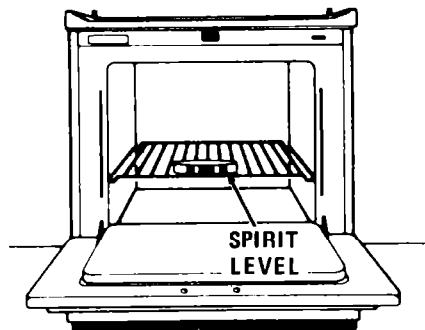

FIGURE 8
1. Move the range to its final operating position and check the level of the range by using a small spirit level on the oven rack. See Figure 8. The range can be leveled from side to side and front to rear by adjusting the four leveling legs.